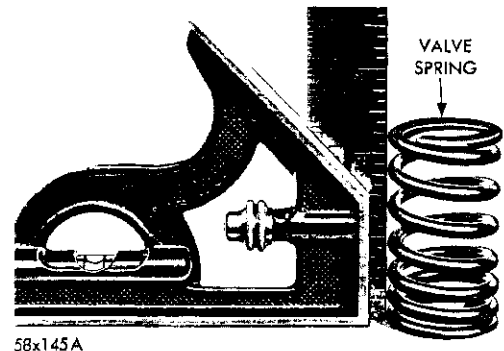

Fig. 18—Checking Valve Spring Squareness
(1) Whenever the valves are removed for inspection, reconditioning or replacement, the valve springs should be tested. To test a spring, determine the length at which the spring is to be tested. As an example, the compressed length of the spring to be tested is 1-15/32 inches. Turn the table of Tool C-647 until the surface is in line with the 1-15/32 inch mark on the threaded stud and the zero mark to the front. Place the spring over stud on the table and lift the compressing lever to set the tone device. Pull on the torque wrench until a ping is heard. Take the reading on the torque wrench at this instant. Multiply this reading by two. This will give the spring load at the test length. Fractional measurements are indicated on the table for finer adjustments. The valve springs should test 187 to 203 pounds when compressed to 1-15/32 inch. Discard the springs that do not meet these specifications.
(2) Inspect each valve spring for squareness at both ends with a steel square and surface plate, as shown in Figure 18.
(3) If the spring is more than 1/16 inch out of square, install a new spring.